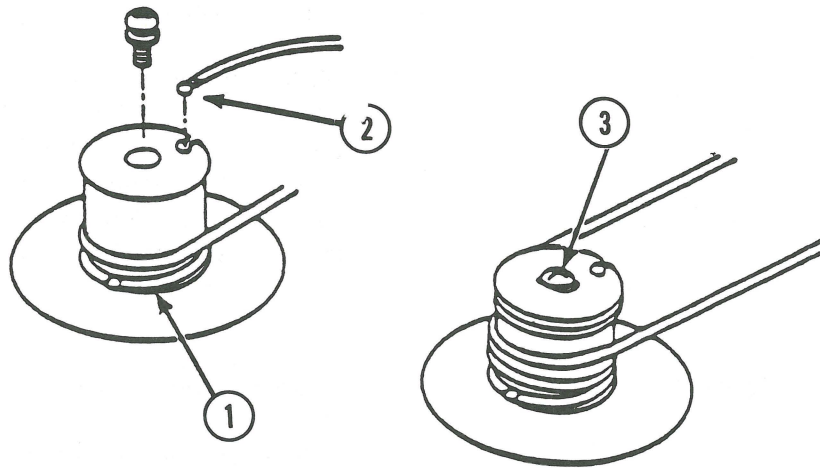

FIGURE 29
8. Seat the motor pulley (Figure 29, #1) on the shaft .
9. Hold the wire snug against the motor pulley with your thumb. Turn the pulley clockwise and wind up the carrier wire (Figure 29, #1).
Insert the short end of the wire into the top slot of the motor pulley (Figure 29, #2).
12. Replace the motor pulley screw (Figure 29, #3).